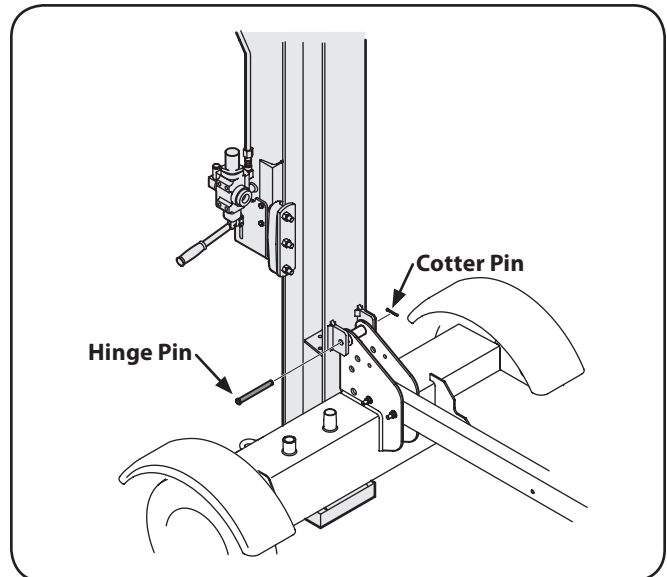

Figure 3-6
4. Secure the hinge pin with the cotter pin by bending the ends of the pin. See Fig. 3-6.